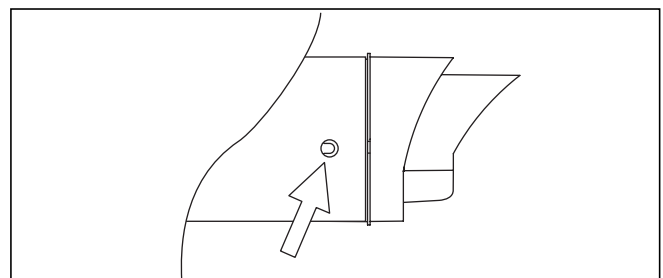

Fig. 2.22 Locking the catch
- Push the flue duct with the terminal back in the air duct. Carefully push the flue duct back into the sleeve of the pipe or bend behind it. Lock the two catches (fig. 2.22).